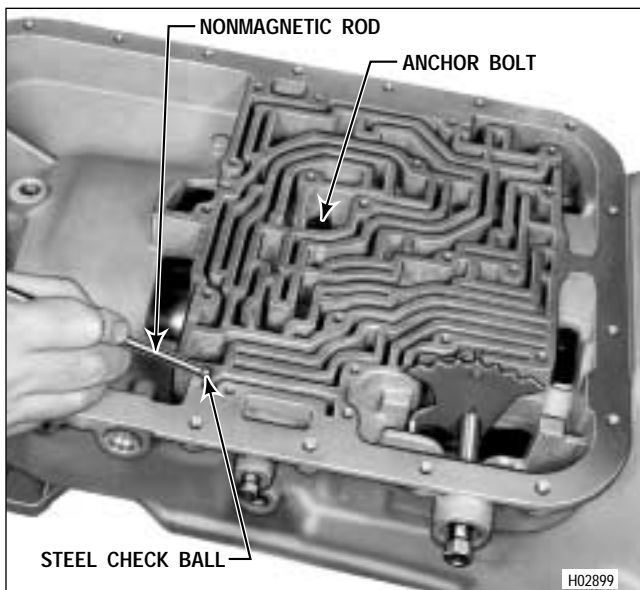

Figure 7–32. Installing Governor Check Ball (Earlier Models)
(5) Install governor circuit screen 12 (Fold-out 12,B) closed end first, into the valve body, at the governor feed tube opening (Figure 7–33). Install the governor feed tube.
Inspect both ends of the governor feed tube. Earlier models contained a plastic screen located where the governor feed tube unites with the housing. This screen must be replaced with a wire screen and relocated in the governor feed tube bore (Figure 7–33).
(6) Install the governor pressure tube (Figure 7–33).
(7) For earlier models, install the short, non-braced, first clutch feed tube.
(8) Lift the main control valve body and swing the three tubes into proper position to enter their holes in the transmission case.